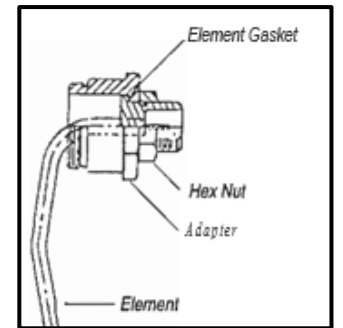

Figure 2
5. Install heater assembly--see Figure 2. The heater can be disassembled for installation. During installation, point the element at 9 o'clock. Insert element with light pressure, working the element back and forth. When in place, the element will rotate freely approximately 30°. Reassemble heater if necessary.
The element gasket is required--see Figure 2. The 1/4" hex nut should be loose until adapter is tightened. Thread adapter into the block. Do not allow the element to turn while the adapter is tightened.